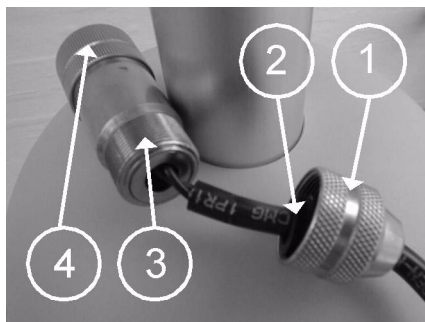

Figure 54 Solar Panel Connector Assembly
6. Tighten part 3 to connect it with part 4, see Figure 54 on page 69. Insert the sealing part 2 into part 1. Tighten part 1 to part 3.